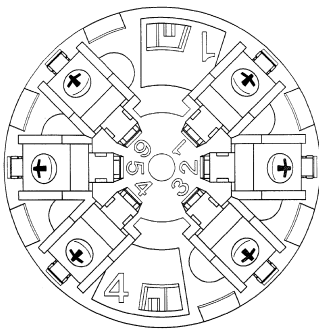

Fig.3
- 3) Connect the wires to the terminals of the base (refer to Connection/Wiring diagram Fig. 3 Table 1).
- 2) Connect wires to the screw terminal of the base as shown in the Connection/Wiring diagram (Fig. 3 Table 1).